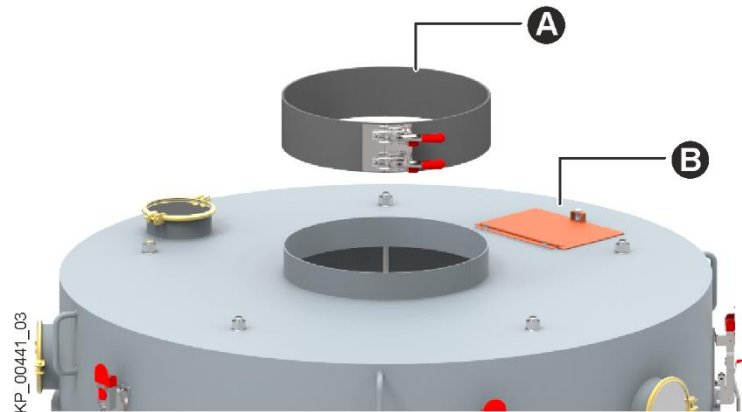

Fig. 30: Connecting the proportioning system
- Connect the proportioning system or inlet distributor via the elastic bent-lever closure (Fig. 30/A) with the dust hood (Fig. 30/B).